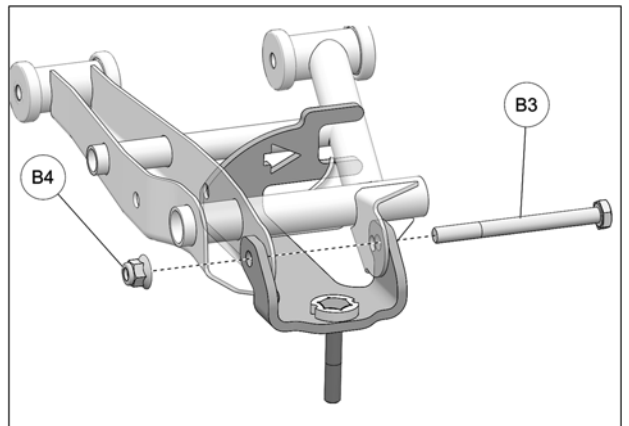

Fig. 9
8. Insert new M10x110 mm assembly bolt (**B3**) through bracket, suspension arm and hub. Thread new nut (**B4**) on bolt and tighten to 50 N•m of torque [37 lb•ft]. See Fig. 9